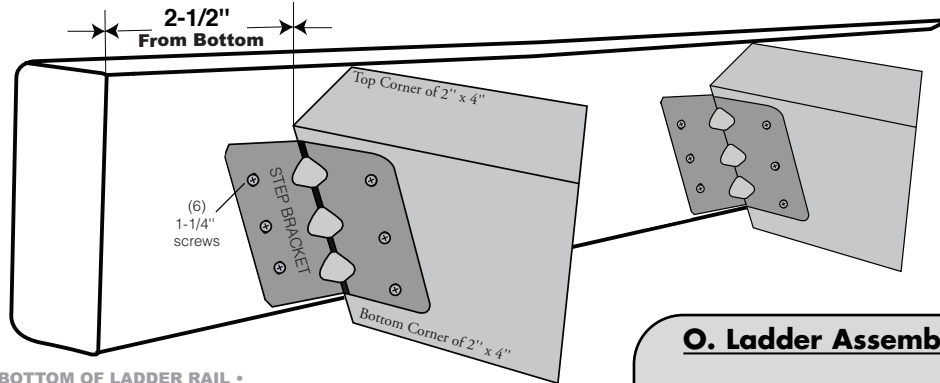
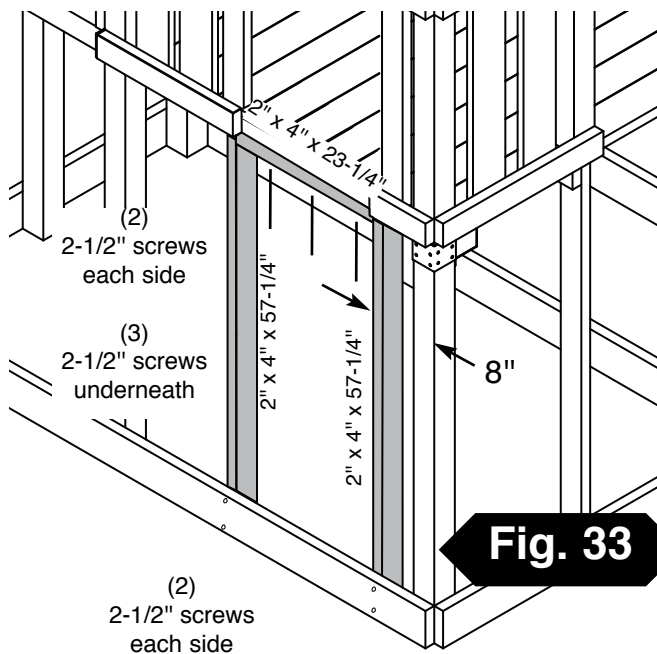

Fig. 32
Fig. 33
2. Align top of step bracket with line and screw in place. Install a ladder rung at each of the four locations. (**Fig. 31**) and (**Fig. 32**) Repeat on other ladder rail.
3. Attach 2" x 4" x 23-1/4" to siderails using (2) 2-1/2" screws per side.
4. Secure ladder to unit. (**Fig. 33**) and (**Fig. 33a**)